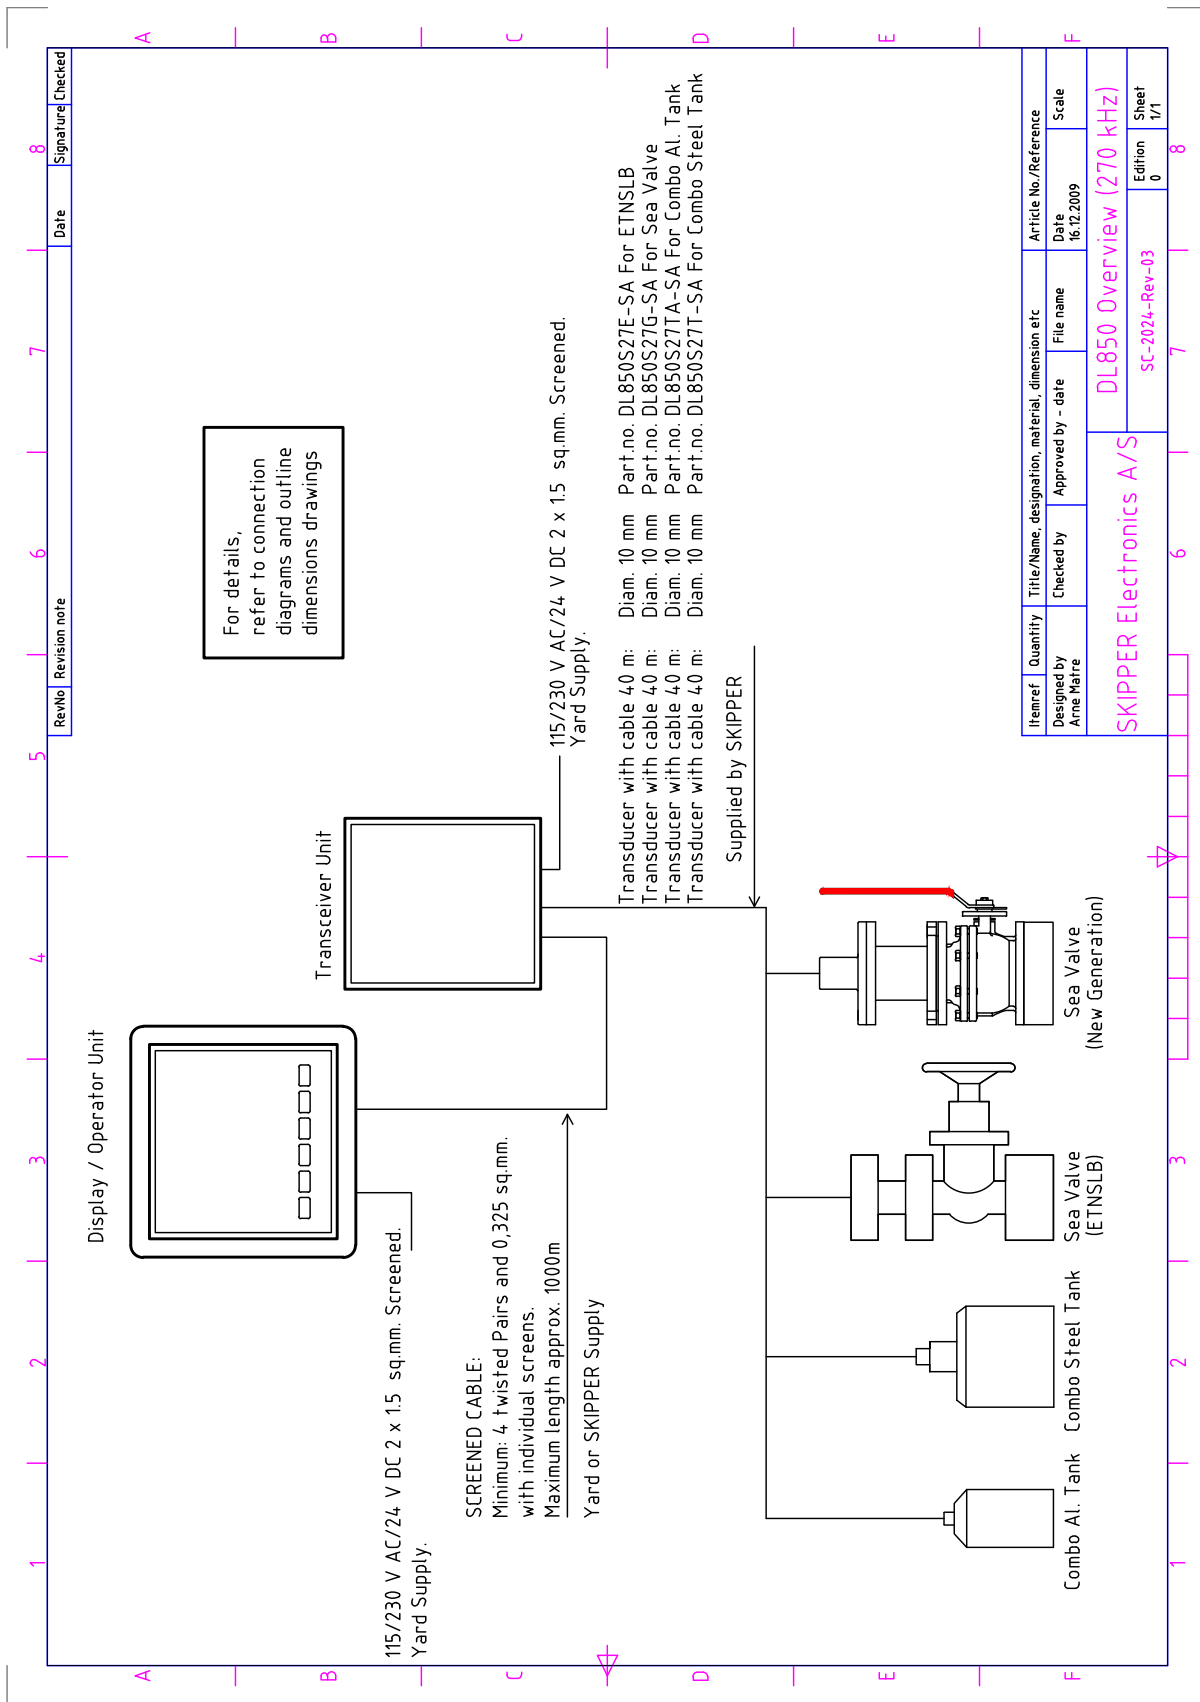

Fig. 10.3. System overview
- Fig. 10.3. System overview. See “DL 850 System Overview” on page 70.